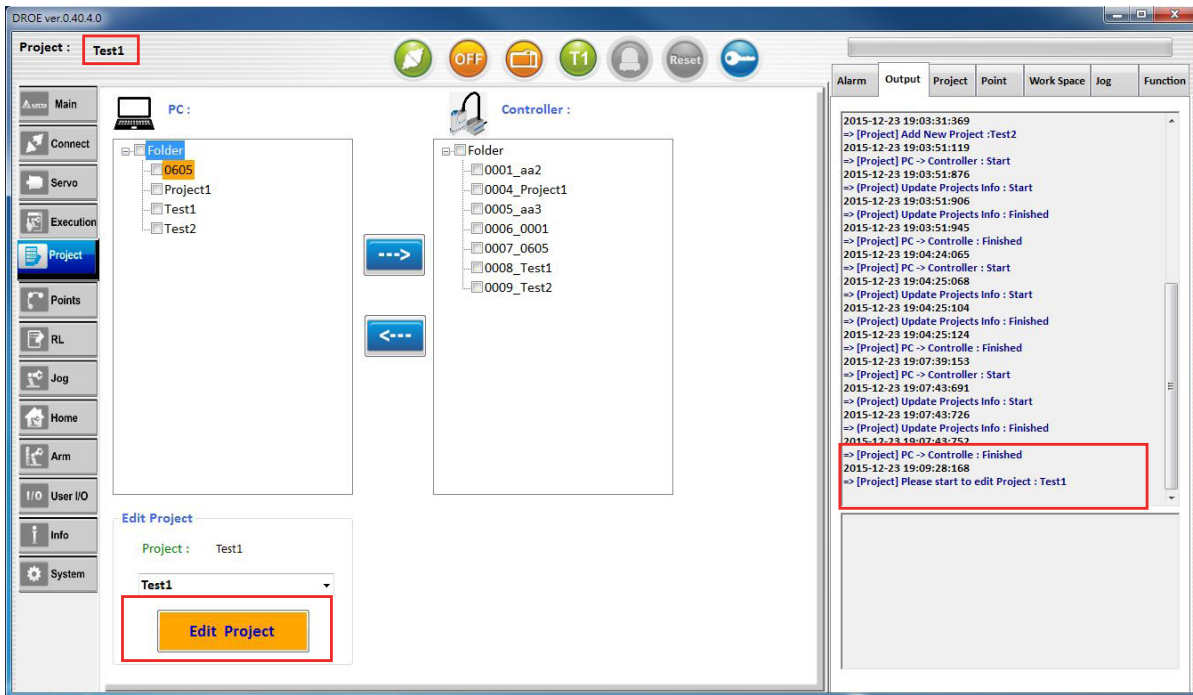

Fig.23 Edit Project(open project)
- (1) Select the name of the project to be edited, and click “Edit Project”. After the project loading is completed, the top of the main screen will monitor the state and display the project name, as shown in Fig.23.